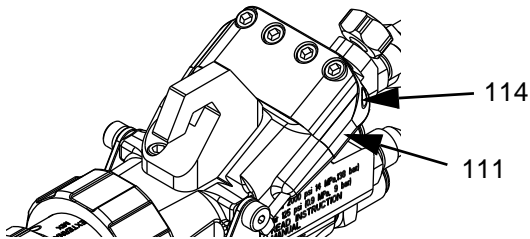
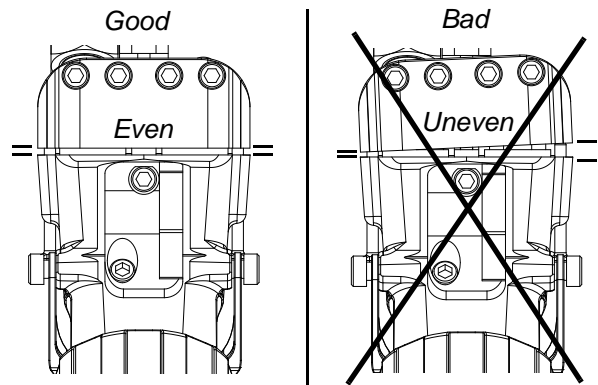

FIG. 11
FIG. 12
Perform this procedure if the trigger clamp pulls away from the gun body unevenly when the trigger is pulled, see FIG. 12. This procedure adjusts the actuator pins (111) in the trigger clamp, see FIG. 11.
NOTE: When installing the four finger trigger (16F627), ensure trigger lock functions and clamp assembly opens correctly, see FIG. 12. If any adjustments are needed perform this **Adjust Actuator Pin Adjustment Screws** procedure.
11. Hold the trigger fully engaged and measure the space between the trigger clamp and the gun body on both sides. The gaps should be at least 0.065 in. (1.65 mm) in the open position. Adjust screws as necessary. See FIG. 12.